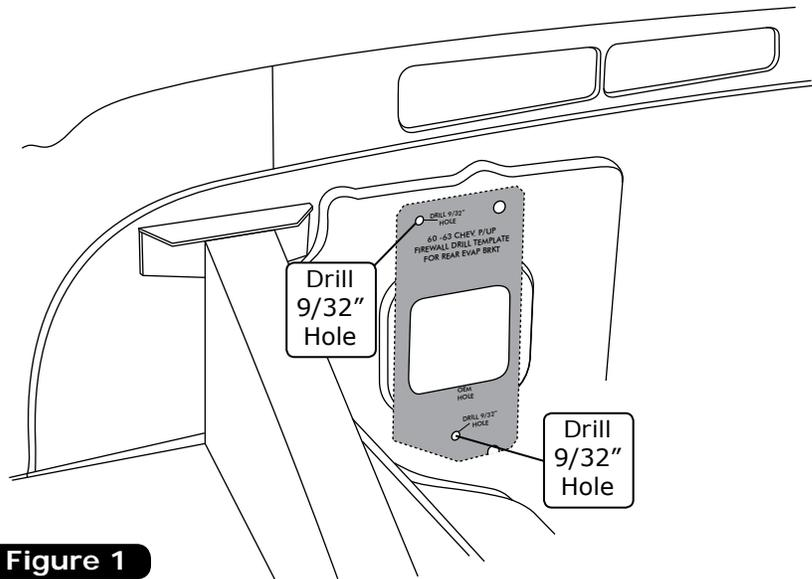

Figure 1
1. Using the template provided on page 23, align the template on the engine side of the firewall with the OEM holes. Mark and drill a 9/32" hole in the firewall (See Figure 1, below).